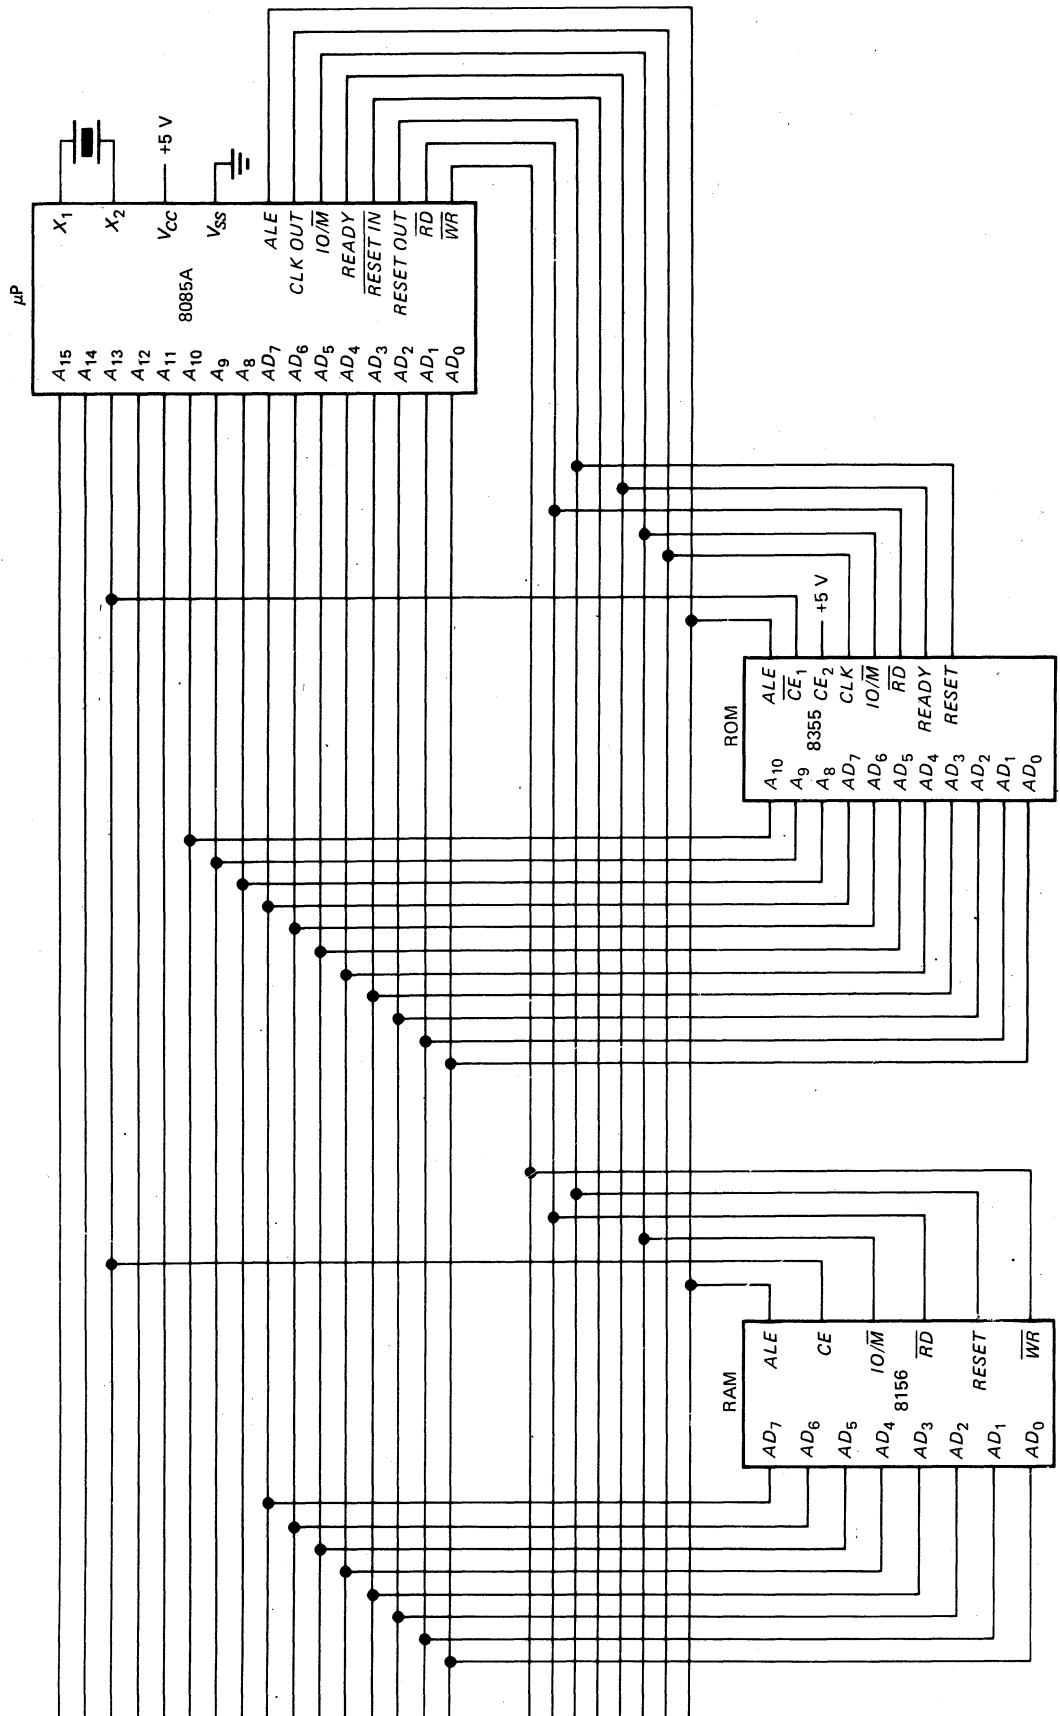

Fig. 13-17
- 13-5.** In Fig. 13-17 (see page 235) a write operation into memory location 2056H is in progress:
- 13-6.** Memory location 0500H is being addressed in Fig. 13-17.